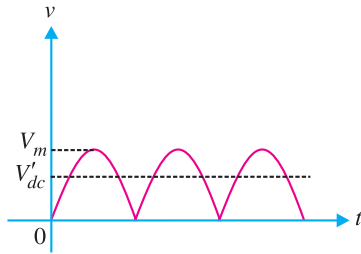

Fig. 6.46
**Solution.** The output of a full-wave rectifier has a d.c. component and an a.c. component. Due to the presence of a.c. component, the rectifier output has a pulsating character as shown in Fig. 6.46. The maximum value of the pulsating output is  $V_m$  and d.c. component is  $V'_{dc} = 2 V_m / \pi$ .